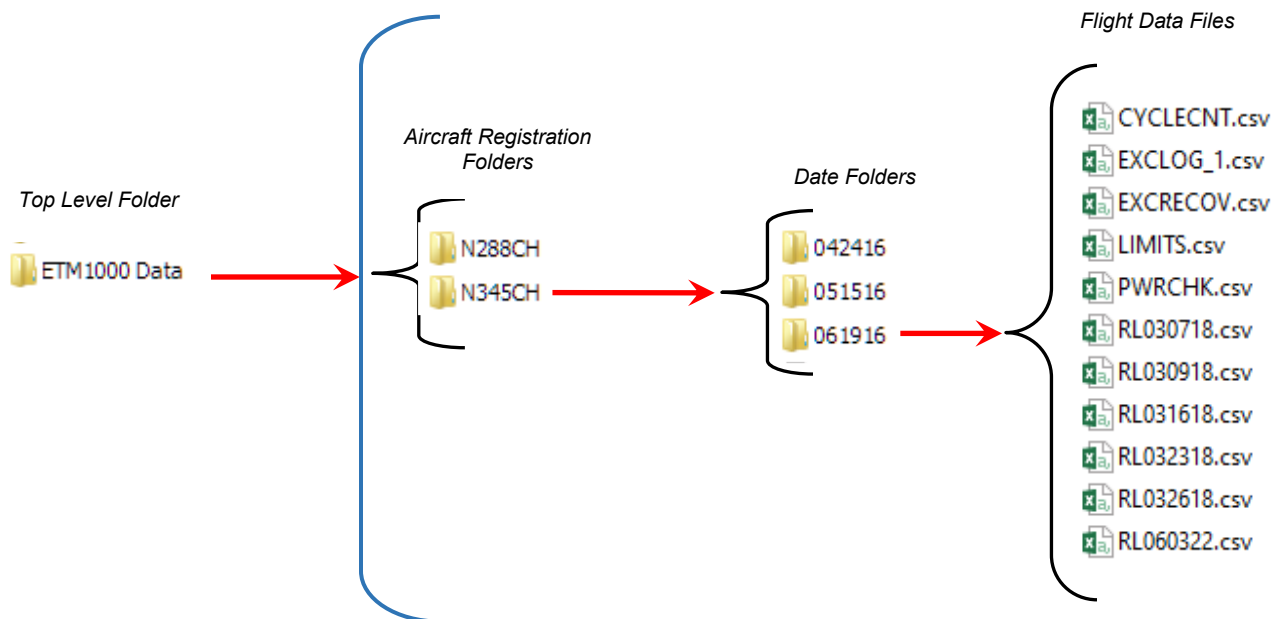

Fig. 1 - Backup File Structure Example
- a. With reference to the *Fig. 1* below, create a dedicated top level folder named **ETM1000 Data** on your **Windows Desktop** screen by performing the following: